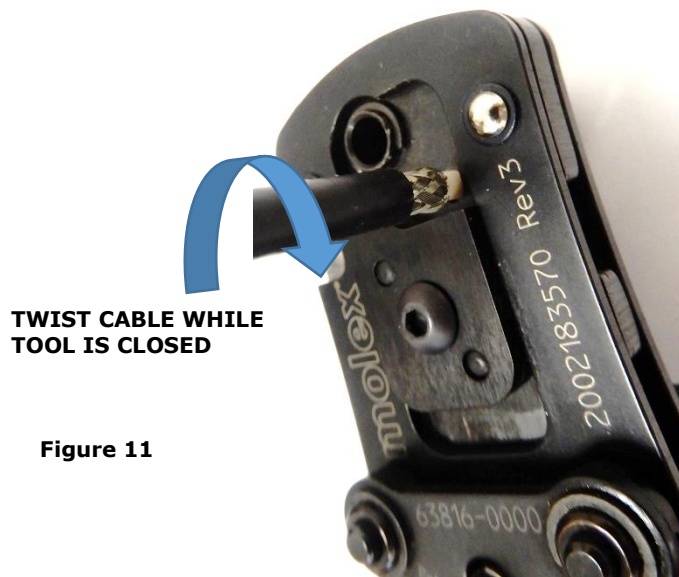

Figure 11
- 3.4 While holding the tool handles closed, twist the cable several turns. This helps the stripping blades cut cleanly through the dielectric. See Figure 11.